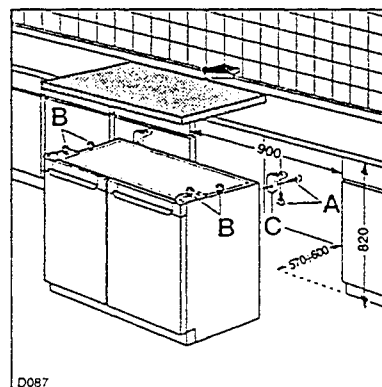

Fig. 4
This appliance can also be fitted under your existing kitchen unit tops following the instructions below: remove the screws (A) fixing the rear brackets (C) to the top, detach the top from the catches (B) and remove (Fig. 4).